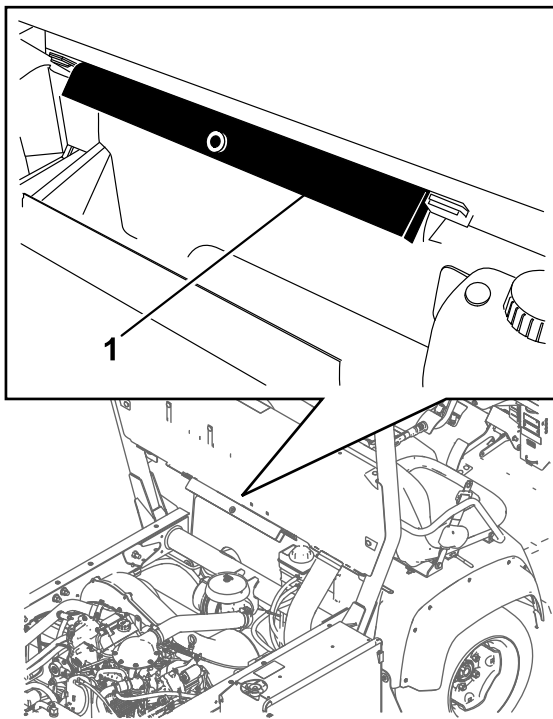

Figure 1
- B. Remove the bed support from the storage brackets on the back of the ROPS panel (Figure 1).